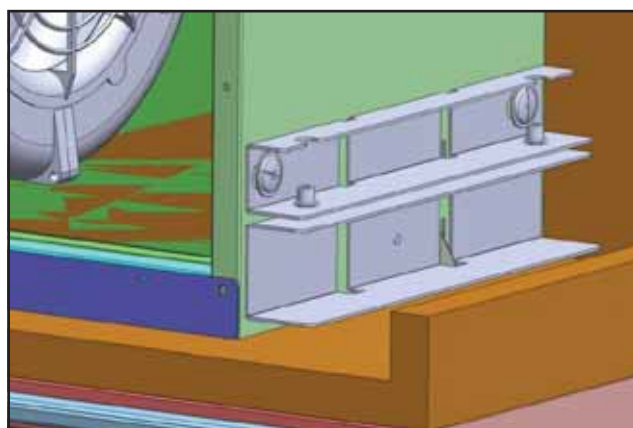

Fig.6
5) Place lower installation brackets under upper installation brackets located on left and right sides of hood body, Fig.6. Note: The wider portion of the lower installation bracket should be at the bottom.